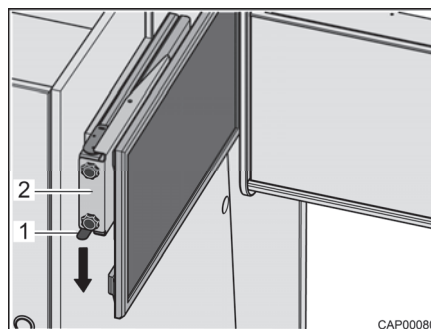

Fig. 67 Pull-out with flat screen
- Press catch spring (Fig. 67,1) downwards and pull pull-out (Fig. 67,2) with flat screen out horizontally towards the centre of the vehicle.
- Push the pull-out (Fig. 67,2) with flat screen in horizontally as far as it will go. The catch spring (Fig. 67,1) engages audibly.